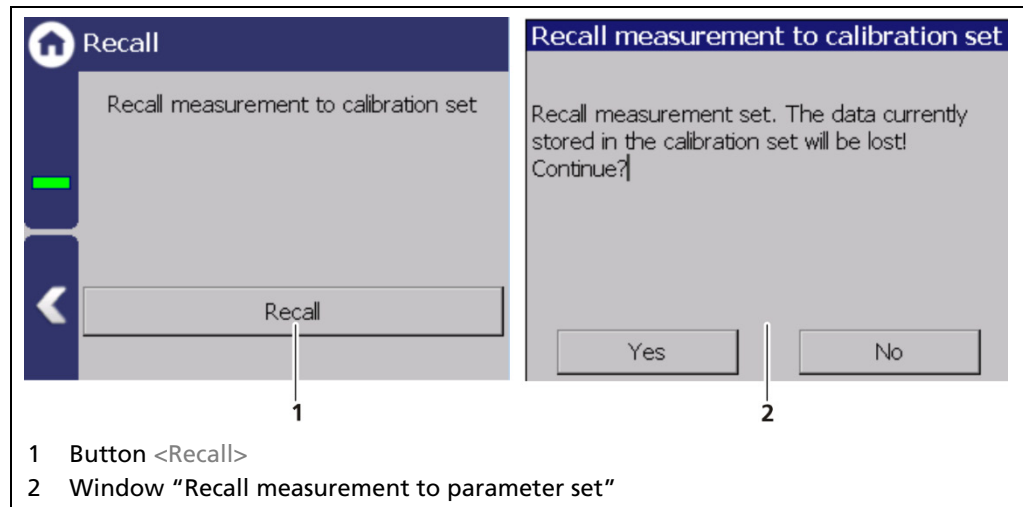

Fig. 70 Recall
1. Click on the button <Calibrate> (Fig. 70, item 1).
2. Click on the <Yes> button (Fig. 70, item 2) to overwrite your measurement parameters with the calibration settings.
3. Click on the <Close> button (Fig. 70, item 3)